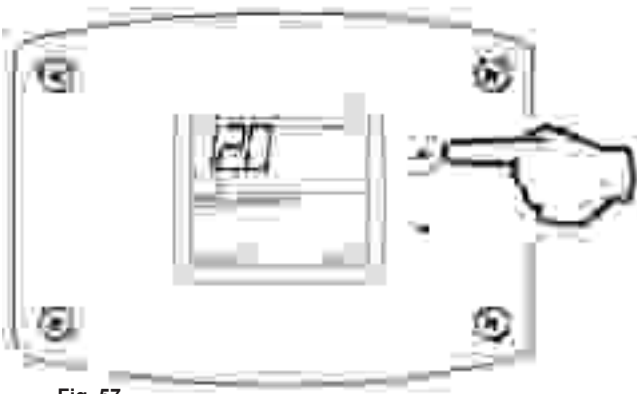

Fig. 57
3. To raise the temperature setpoint, press the 'Temperature Up' button until the desired temperature is shown on the water heater display (Fig. 57).